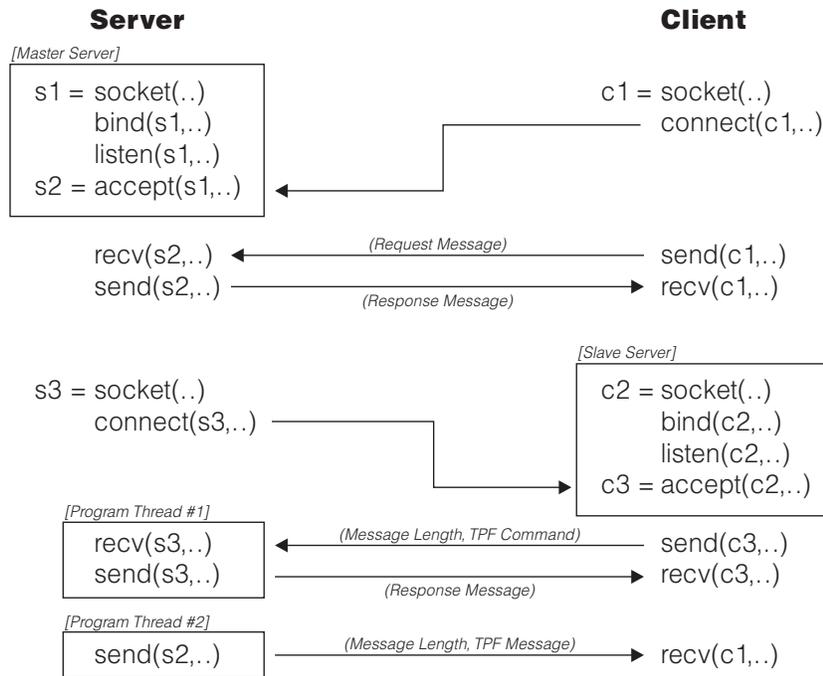

Figure 2-3. TPF Operations Server Connection and TPF Message Flows
Figure 2-3 on page 2-12 shows that the console session connects to the TPF host system.
- **eyn_sspnum:** The slave server port number that is used by the TPF Operations Server to establish the second socket connection as shown in Figure 2-3.